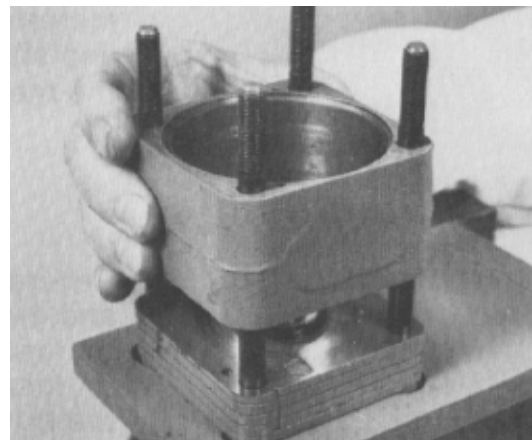

Figure 105
24. Apply clean multi-purpose grease to the metering ring seal ring. Put the seal ring into position in the metering ring seal groove opposite to the end with the alignment pin holes. Stack the metering ring into place, over the four bolts, with the seal ring towards the upper cover plate. Make sure an alignment pin hole on the metering ring is in line with and on the same side as the alignment groove on the side of the upper cover plate (Fig. 105). This is required so the other components can be aligned correctly.